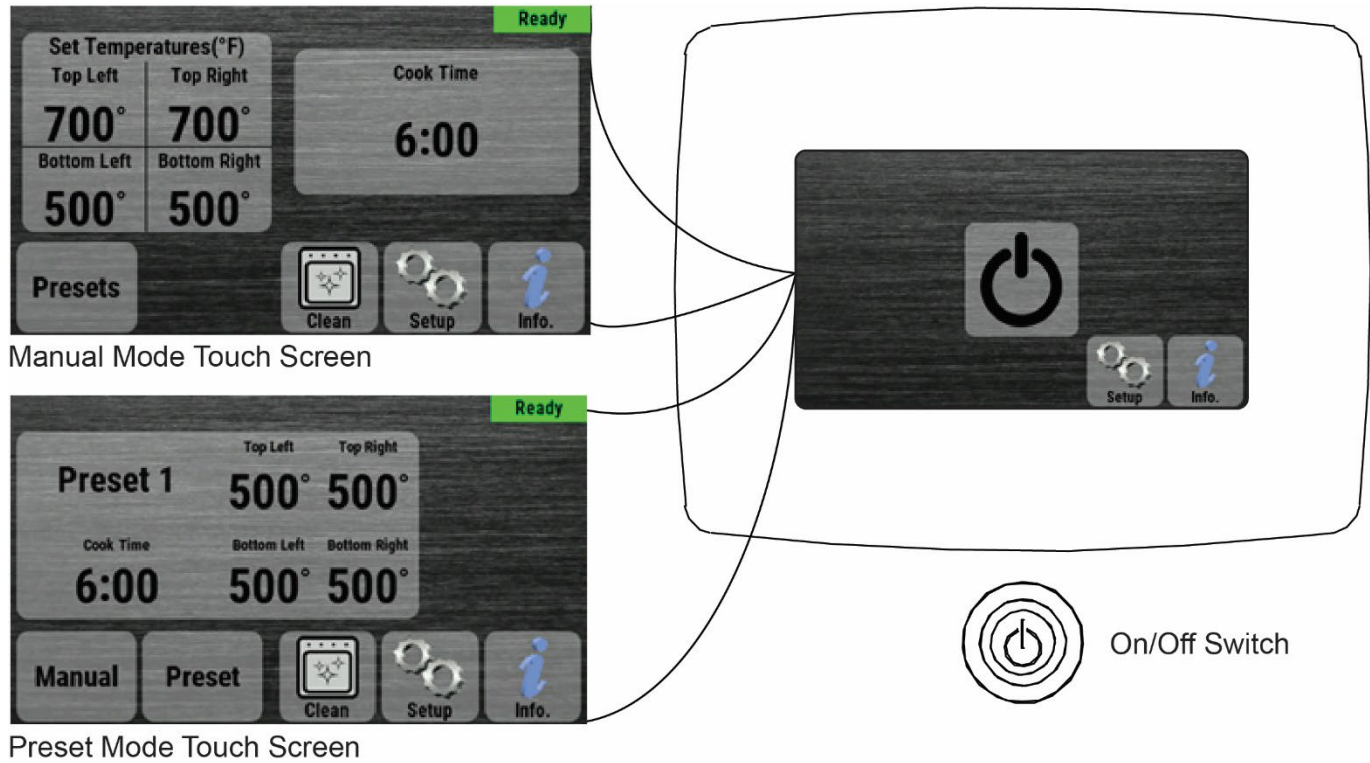

Figure 23. Control Panel
3. Touch the large onscreen on/off button. The screen shows either the Manual Mode touch screen or the Preset Mode touch screen, depending on the mode the oven was in when last turned off. See Figure 23. The screen will show “Not Ready” at the upper right until the oven heats to the displayed temperatures and the conveyor reaches the displayed speed.